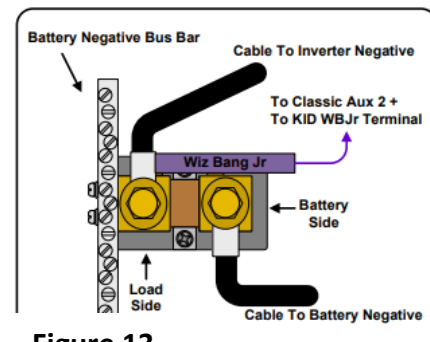

Figure 13
The shunt is wired in series on the electric low side, or negative side, of your system. The wire marked “Cable to Inverter Negative” (**Figure 13**) shows the shunt connection point for **ALL** negative wires from the Rosie, additional charge controllers, wind turbine negative, DC refrigerator, etc. All negatives land there. The other shunt bolt connection is the single cable from the shunt to the battery bank’s master negative terminal.
2. Reference **Figure 13**: